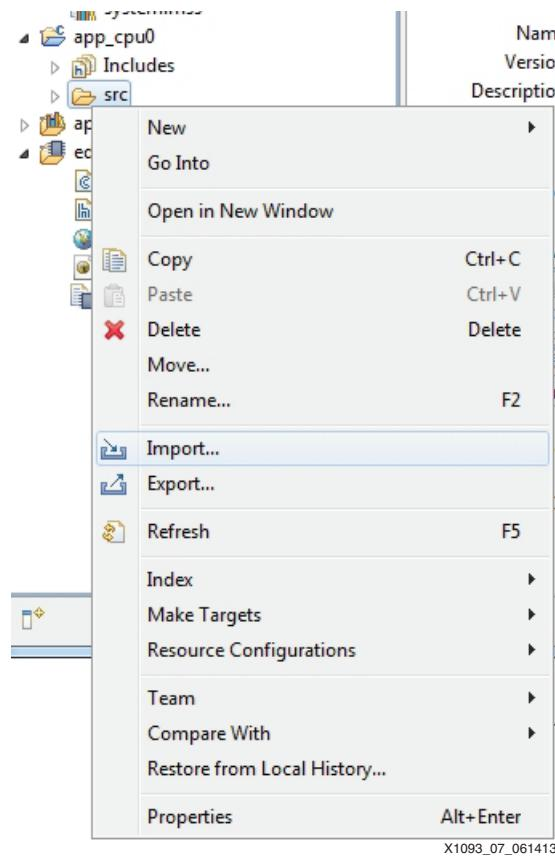

Figure 7: CPU0 Import
7. In the Project Explorer tab, expand **app_cpu0** and right click on the **src** folder, as shown in Figure 7.